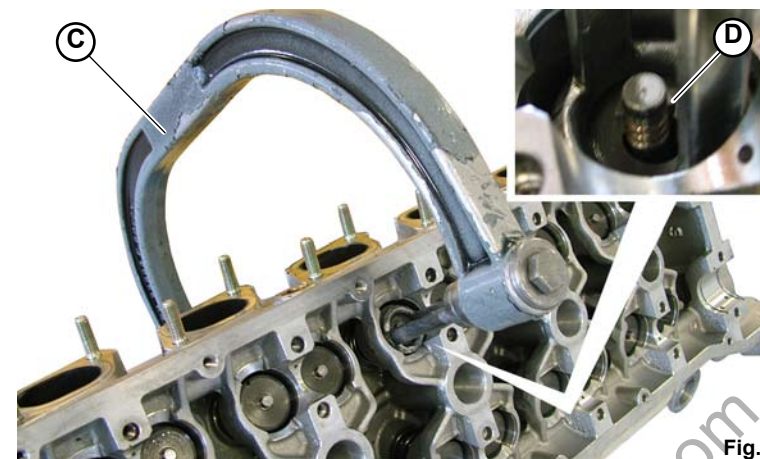
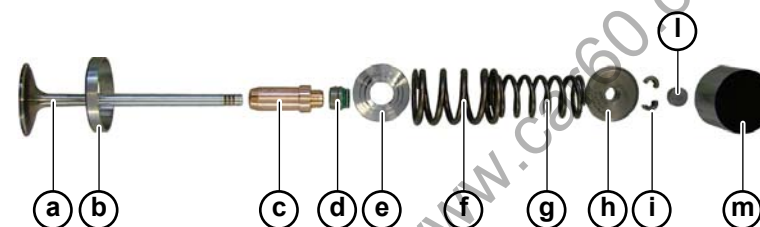

Fig.3
Fig.4
3. Using the special tool (**C-Fig.3**), press the spacer ring to extract the 2 cotters (**D-Fig.3**).
4. Remove the cotters (**D-Fig.3**), then the tool, followed by the entire valve unit (**Fig.4**):
5. Position the spacers (**C-Fig.3**) above the upper spacer rings.
6. Remove the tappets (**D-Fig.3**) from their housings.